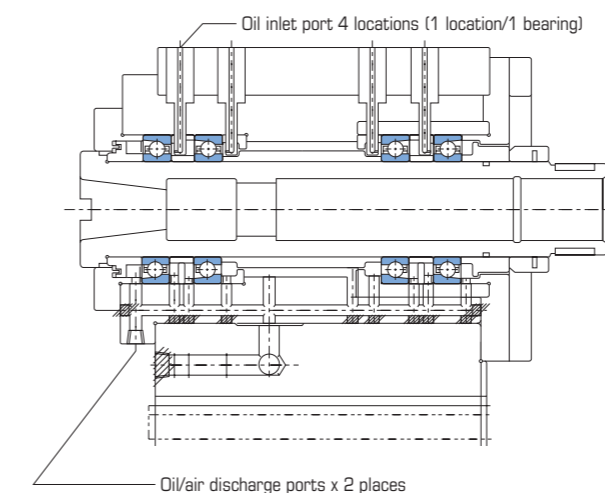

Figure 6.4 Example of Spindle Unit Using Oil Air Lubrication
- ③ Oil air lubrication
- Figure 6.4 shows an example of oil air lubrication.